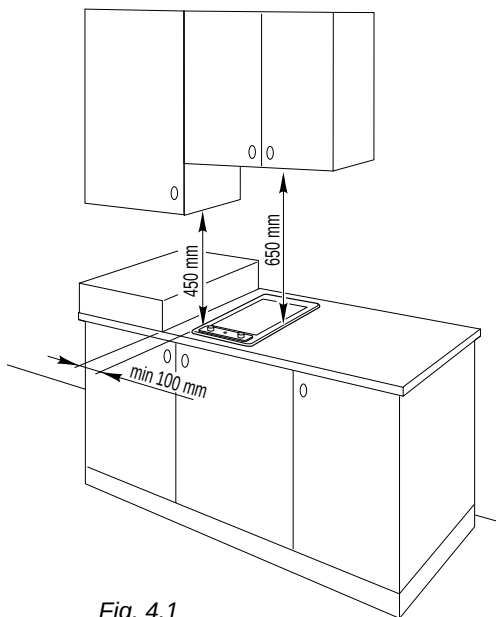

Fig. 4.1
- there must be a distance of at least 650 mm between the hob and any wall cupboard or extractor hood positioned immediately above (see fig. 4.1)